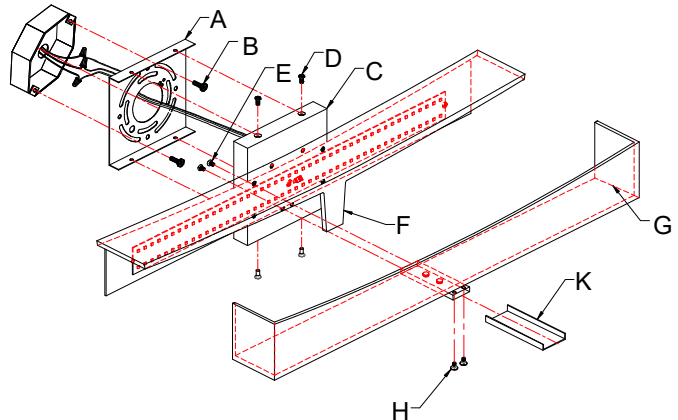

Fig. 2
CONNECTING THE WIRES (FIG. 2)
6. Connect the electrical wires as shown in Fig. 2, making sure that all wire connectors are secured. If your outlet has a ground wire (green or bare copper), connect the fixtures ground wire to it. Otherwise, connect the fixture ground wire directly to the mounting plate (A) using the green screw provided. After wires are connected, tuck them carefully inside the junction box.
7. Align fixture back plate (C) onto mounting plate (A) and secure with screws (D).